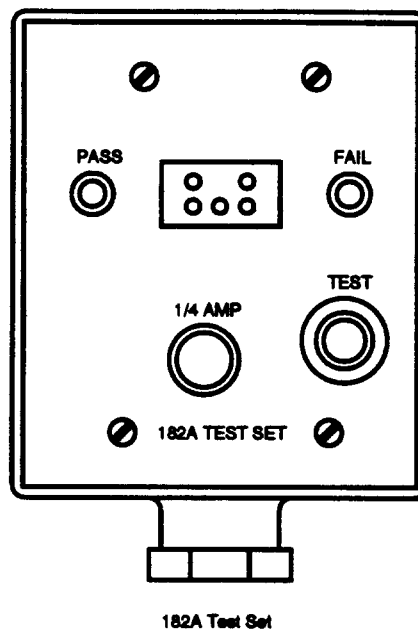

Figure 7. 182A Test Set
5.03 The 182A test set (Figures 7 and 8) is used to test the minibridge lifter protector units (4B11F and 4C11F) for tip and ring continuity and for shorted protector blocks. It also tests the function of the 410A switch contained in the protector unit. The 182A test set is housed in a conduit box for wall mounting.